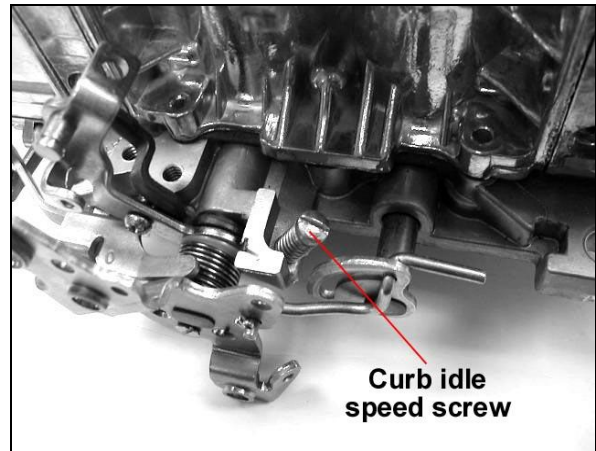

Figure 12
4. Now that the idle mixture is set, it may be necessary to go back and reset the idle speed using the curb idle speed screw, as shown in **Figure 12**.